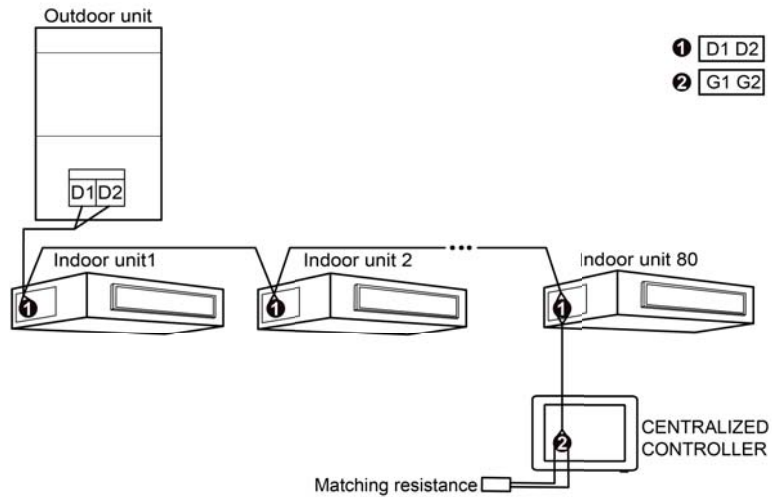

Fig. 3.4 Centralized air conditioner connects to network of indoor units
- (1) The centralized controller is suitable for multi-VRF unit and can be connected to the network of indoor units or outdoor units. The total number of outdoor units controlled by a centralized controller shall not exceed 16, and the total number of indoor unit controlled by one centralized controller shall not exceed 255.
- (2) When the centralized controller is connected to the indoor unit network, connect the network as shown in Figure 3.4. The centralized controller can only be connected to the last system of the outdoor unit system, and needs to be connected with matching resistors at the G1 and G2 interfaces together with the communication cable.